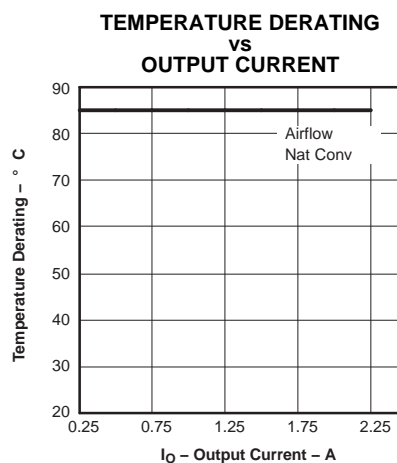

Figure 5.
- (2) The temperature derating curves represent the conditions at which internal components are at or below the manufacturer's maximum operating temperatures. Derating limits apply to modules soldered directly to a 100-mm × 100-mm, double-sided PCB with 2-oz. copper. Applies to Figure 5.